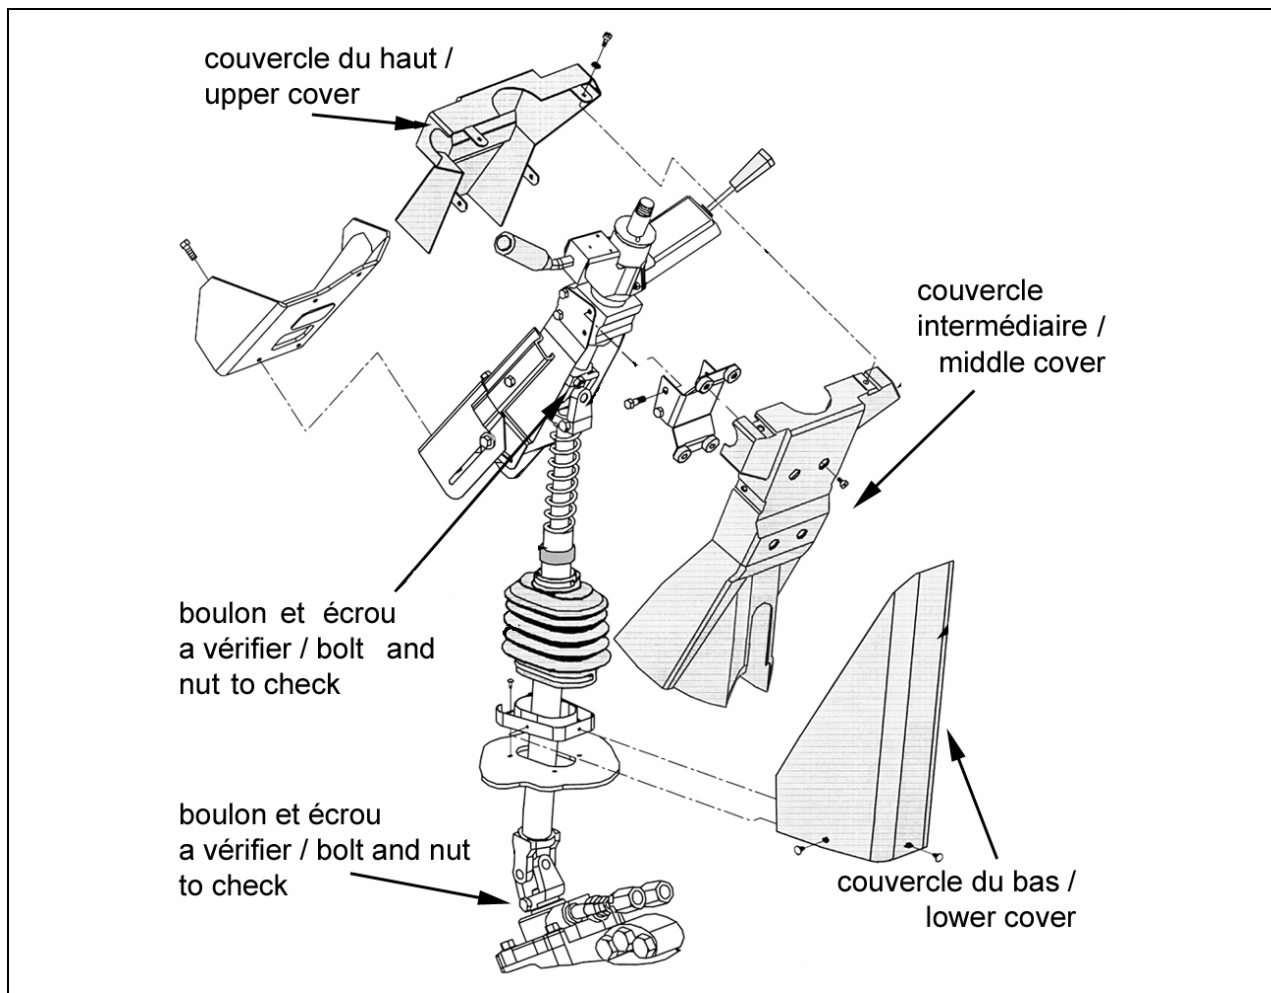

FIGURE 1 : STEERING COLUMN
1. Locate the lower universal joint (figure 1) and check if the bolt and nut are up to the manufacturer's specifications. To do so, use a standard SAE 11/16 socket or a 17mm metric socket. If the dimensions of the nut and the bolt head fit with the socket, i.e. they could be tighten with the socket, they meet the manufacturer's specifications and they do not need to be changed. If they are too small and do not fit with the socket, they have to be changed according to part B of this recall.
2. From the driver's compartment area, remove the three plastic fasteners on steering column cover (figure 1). Remove the lower cover. Unscrew the four retaining screws on steering column middle cover. Unscrew the four retaining screws fixing steering column upper cover to middle cover. Remove the steering column middle and upper covers. Position the steering wheel in order to gain access to the joint. Check if the upper joint fasteners are up to the manufacturer's specifications as described in step 1.